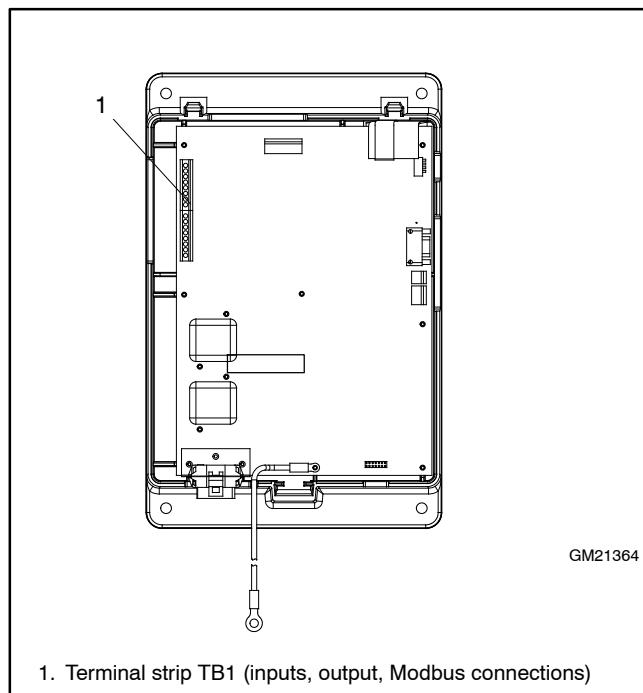

Figure 12-2 ATS Controller, Cover Removed
2. Open the controller housing and locate terminal strip TB1. See Figure 12-2.